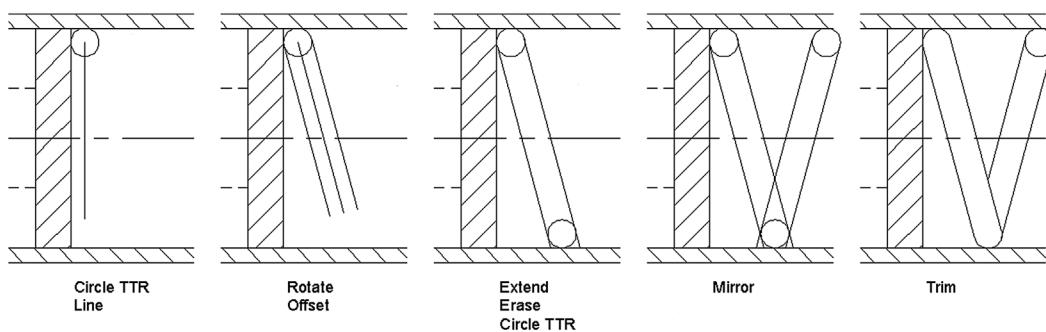

FIGURE 8.31 Drawing the spring.
**Step 11.** Now, how do you do the spring? Well, this is where the Circle/TTR comes in. Although we have not practiced this version of the circle command, it is very simple to do. Start it up and select the TTR option. Then, pick the vertical and the horizontal lines where the circle needs to go (seen in Fig. 8.31) and specify a radius (0.10"). One way of proceeding is to draw a straight arbitrary line down from the center of that circle, rotate the line 15° about that center point, then offset 0.1" in each direction, erase the original line, extend the two new ones to the bottom (if necessary), and repeat the process, as seen in Fig. 8.31. Once a set is done, you can mirror the rest and trim carefully to create the impression of a coiled spring.